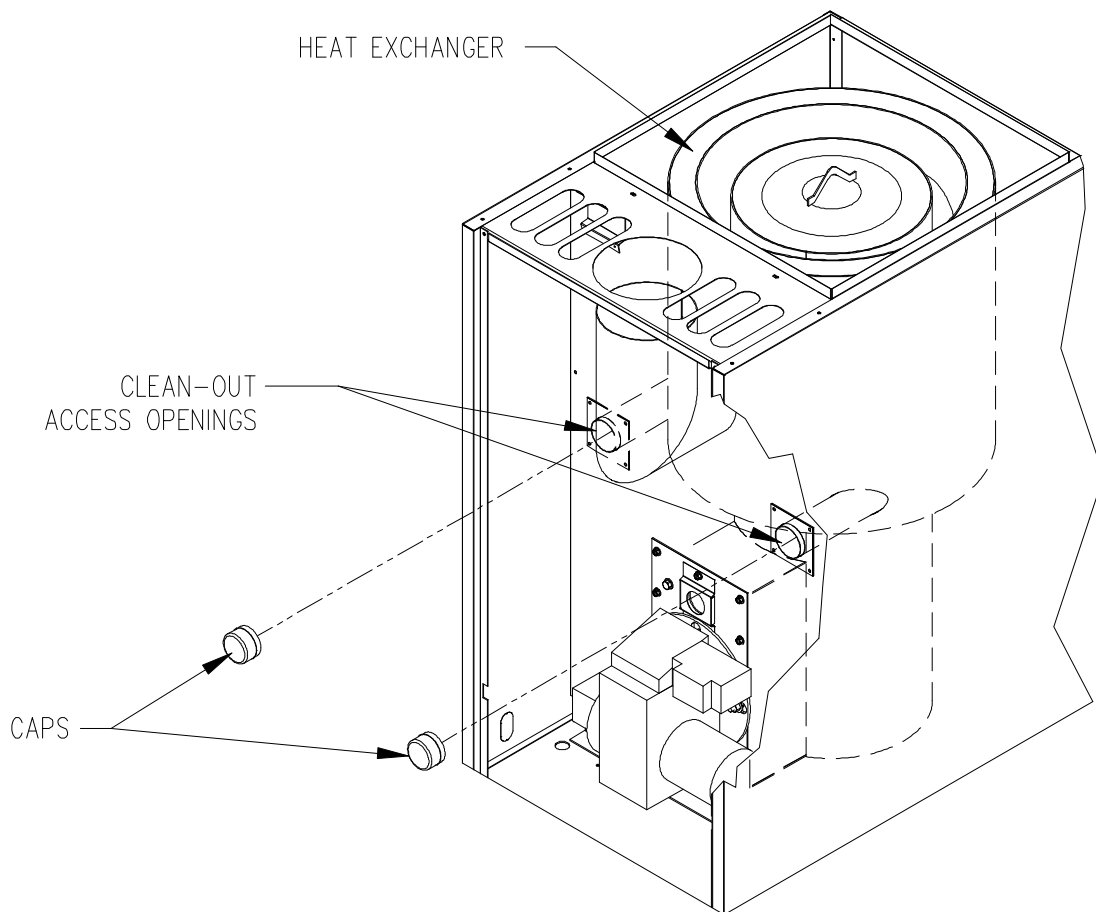

Figure 6: Location and Design of the Lowboy Heat Exchanger Cleanout Ports
The heat exchanger may be inspected and cleaned through two (2) access, or cleanout, ports located in the burner compartment, on lowboy models, or protruding through the front casing panel, on the horizontal/counterflow model. Each cleanout port consists of a 2-inch O.D. tube closed by a pressed-in cap, refer to Figure 6.